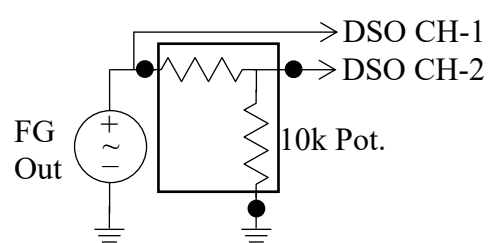

Figure E4b
5. Set up the circuit shown in Fig. E4b on the breadboard using a 10 k Ω potentiometer (which itself is a simple potential divider circuit). Connect CH-1 of the DSO (taken as X) to the FG output and CH-2 of the DSO (taken as Y) to the potential divider output, i.e., the middle wire of the potentiometer. Observe the CH-2 waveform in Normal mode, see how the CH-2 output is changing if the potentiometer knob is varied, and note down the results. Now, observe the display in the XY mode, vary the potentiometer knob and obtain XY plots for 3 different positions of the potentiometer knob including two extreme positions.